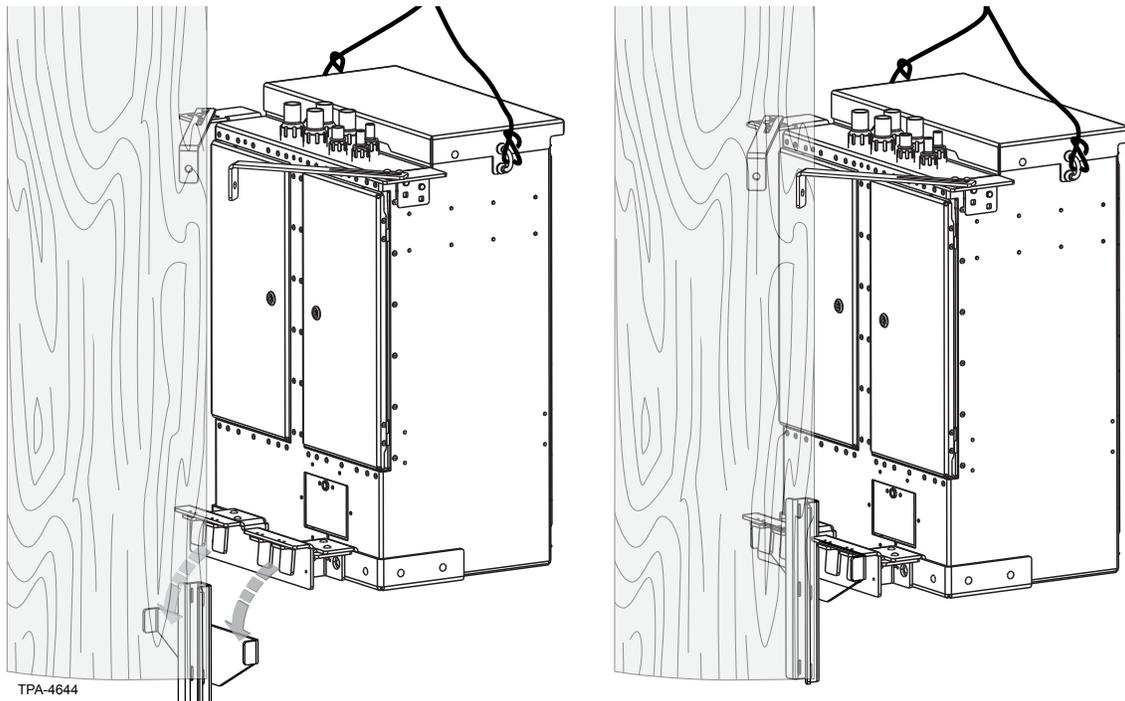

Figure 6
Step 4: Use a crane or hoist to lift the cabinet into position next to the pole (Figure 6). Hang the cabinet on the mounting bracket on the pole. Observe all standard safety practices to avoid personal injury or damage to the cabinet.
Step 5: Secure the top of the cabinet to the pole using the angled brackets at the top of the cabinet (Figure 6).